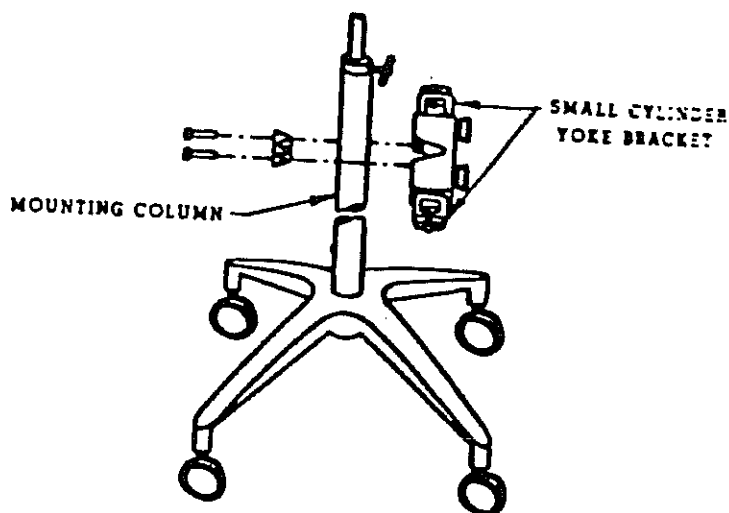

Figure 7 - Cylinder Bracket Assembly
2. Hold the assemblies together with the mount manifold holes aligned to the yoke bracket holes (see Figure 7).